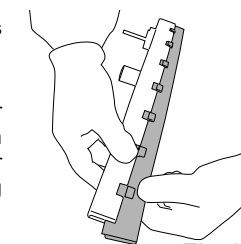

Fig.41
- Pull out the blade, so as to free the entire assembly (fig. 41).